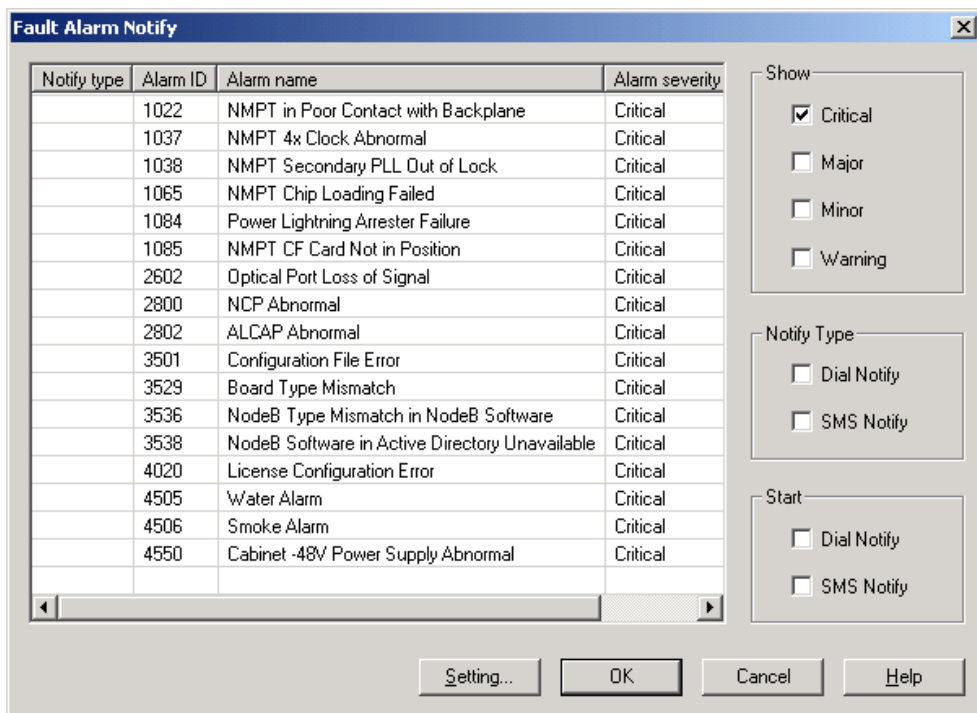

Figure 5-2 Fault Alarm Notify dialog box
- 1) Select **Management -> Fault Alarm Notify** to display the **Fault Alarm Notify** dialog box as shown in Figure 5-2.
- 1) Select **Management** -> **Fault Alarm Notify** to display the **Fault Alarm Notify** dialog box as shown in Figure 5-2.